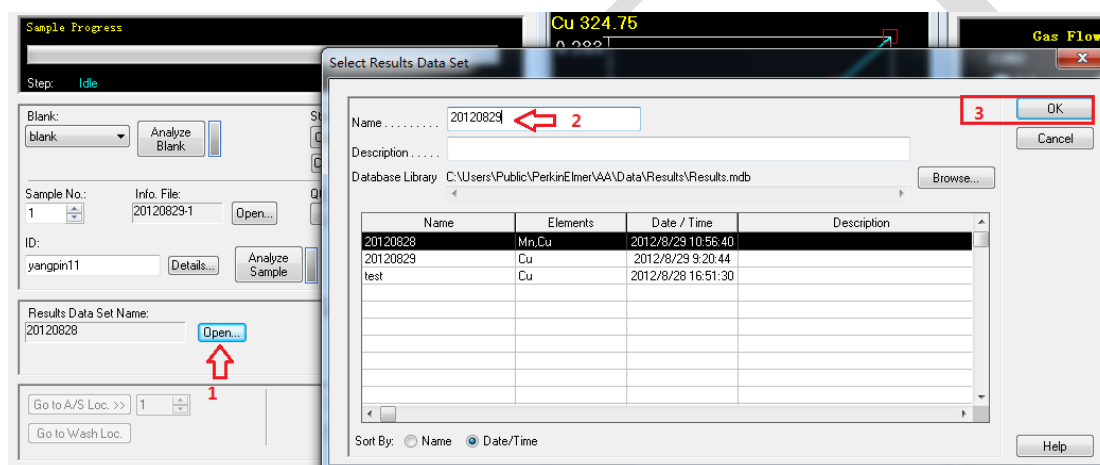

Fig. 20
3.2.7 In the window of **manual analysis control**, click on **open** behind results data set name and in the select result data set dialog appears, type a new data set name and click on ok to confirm (fig.20).